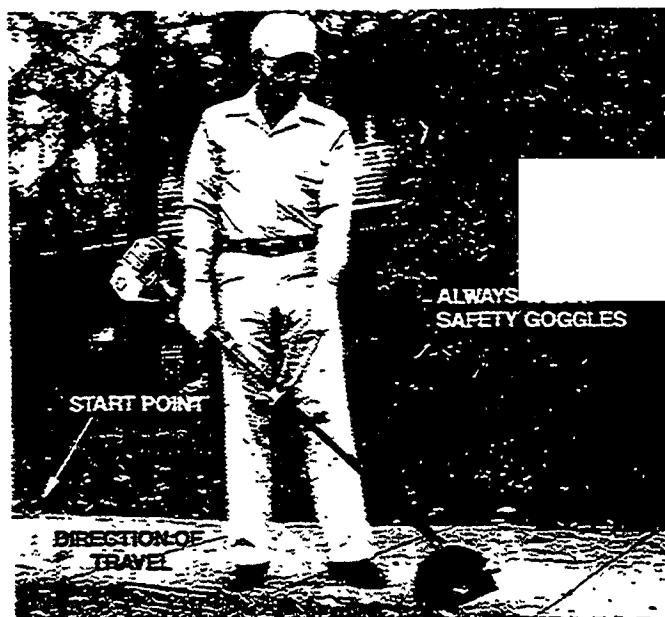
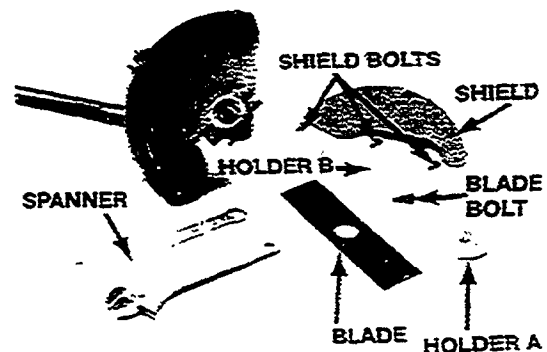

Figure 33
Figure 34
- Start the engine and run at half throttle before putting blade into the ground. Gently lower the blade into the ground at the point you wish to start edging. Be careful not to hit the concrete (Figure 33).
- The correct handling of your edger is shown in (Figure 33, page 13).
- Replace blades as needed. Never wear blade shorter than three (3) inches.
- After each ten (10) hours of use, the gear case should be regreased. Follow the instructions for greasing the 2845 gear case (Page 9).
- To replace blade, first make certain engine is stopped. Fit spanner wrench supplied onto flats of holder B (Figure 34).